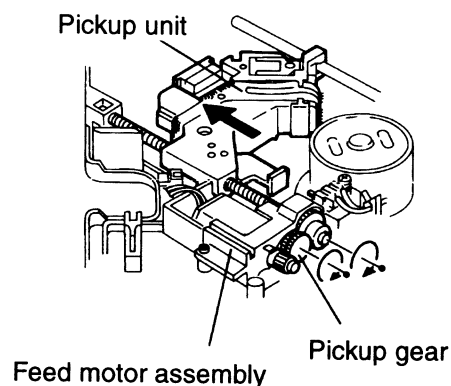

Fig. 19
5. While tuning the pickup gear in the arrow direction as shown in Fig. 19, shift the entire pickup unit.